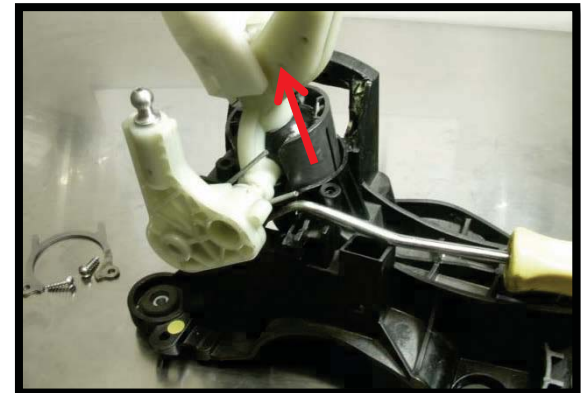

Figure 4c
- c) **Pull the shift lever upward and remove it from the shifter housing (Figure 4c and 4d).**